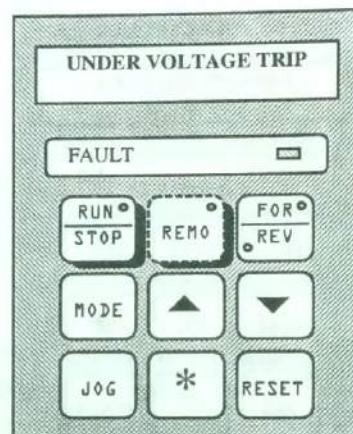

FIG. 3.16
- ☛ Press **REMOTE** key till it displays any of the fault listed in table 4.1 (fig. 3.16).